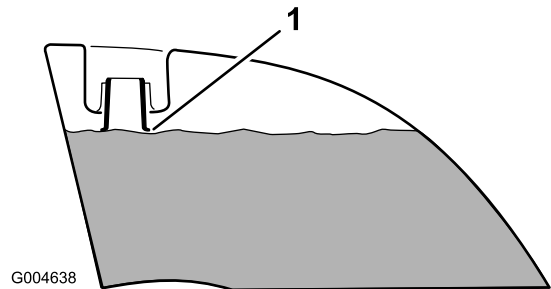

Figure 10
4. Add fuel to both fuel tanks, until the level is even with the bottom of the filler neck (Figure 10). **Do not over fill the fuel tanks.**